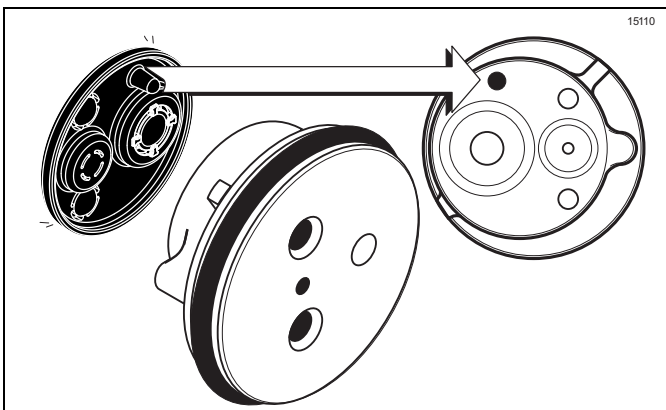

Figure 6-29
6. Slide the pump valve gasket into the holes on the cap. **Do not** lubricate the gasket. (See Figure 6-29.)